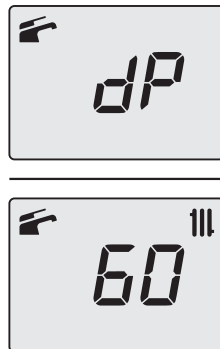

Figure 9.26
- Press button 15 (Figure 9.20) again to vary the output in chimney sweep mode: when the LCD displays the letters **dP** that alternate with the temperature of the heating water (e.g. **60**), the "chimney sweep function" is at maximum output in domestic hot water mode (Figure 9.26);